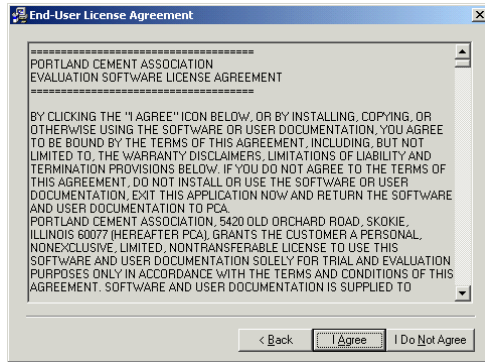

Figure 1-2. License agreement
4. The first step of the application installation process is to review the software license agreement as shown in Figure 1-2. Please read all the information carefully. Press the I AGREE button to confirm that you have read and agreed with it. This will continue the installation. If you do not agree with the license agreement press the I DO NOT AGREE button. This will stop the installation.